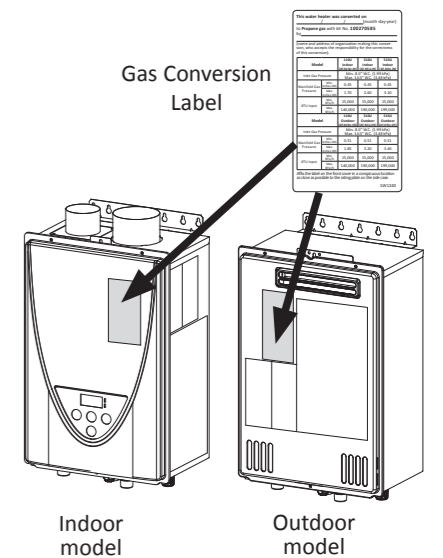

Figure 4
- Fill out all items on the gas conversion sticker with a permanent marker. Affix the label on the upper section of the front cover of the heater as shown in Figure 4.